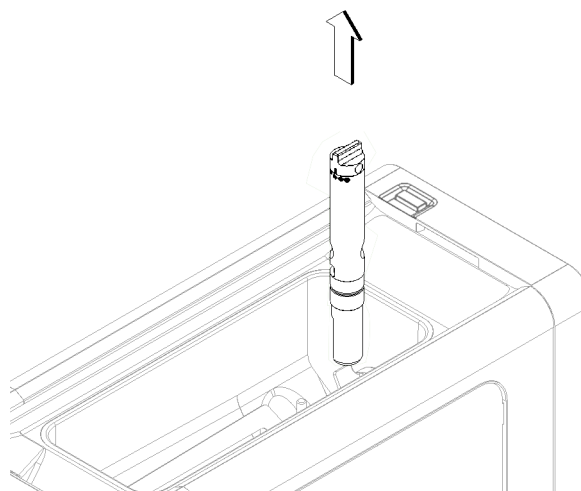
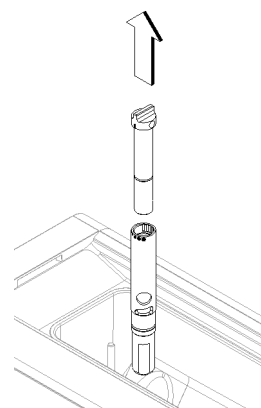

figure 18
figure 19
- 4 Remove the mixing tube and dismantle it (see figure 18) and (see figure 19).